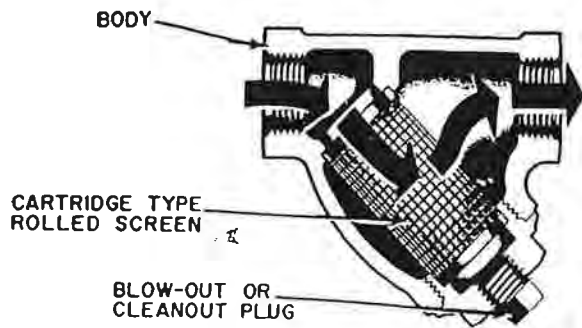

Fig. 9-1. Cross-section view of a typical strainer.
9.05 A common design uses two screens, cylindrical in shape, one inside the other, and separated by a small space. The inner cylinder is a coarse-mesh screen; the outer one is a fine-mesh screen. The fluid passes first through the coarse screen, which catches the larger particles. Then it passes through the fine-mesh screen, which blocks smaller particles. Then the fluid passes back into the line. Figure 9-1 shows the construction of a strainer. Particles in the fluid are caught in two ways. Either they do not make it through the screen, or they do not make the sharp turn that the fluid must take as it leaves the unit. The bottom of the unit serves as a sump or pot where the solids collect.